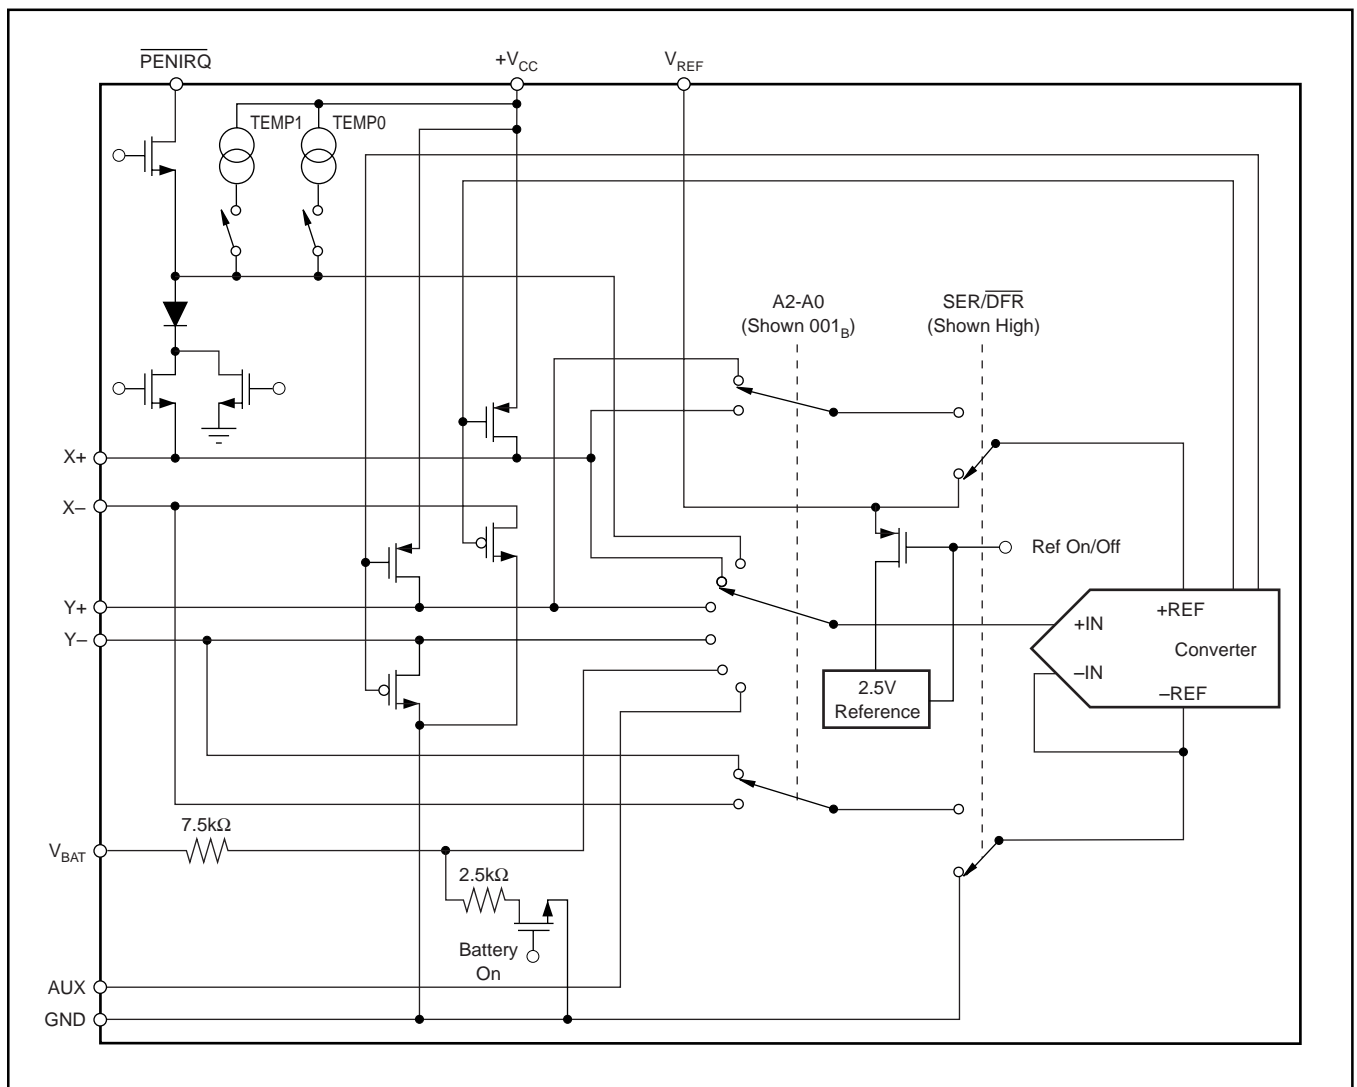

FIGURE 2. Simplified Diagram of Analog Input.
See Figure 2 for a block diagram of the input multiplexer on the ADS7846, the differential input of the ADC, and the differential reference of the converter. Table I and Table II show the relationship between the A2, A1, A0, and SER/DFR control bits and the configuration of the ADS7846. The control bits are provided serially via the DIN pin—see the Digital Interface section of this data sheet for more details.
When the converter enters the hold mode, the voltage difference between the +IN and -IN inputs (see Figure 2) is captured on the internal capacitor array. The input current into the analog inputs depends on the conversion rate of the device. During the sample period, the source must charge the internal sampling capacitor (typically 25pF). After the capacitor has been fully charged, there is no further input current. The rate of charge transfer from the analog source to the converter is a function of conversion rate.
The voltage difference between +REF and -REF (shown in Figure 2) sets the analog input range. The ADS7846 operates with a reference in the range of 1V to +VCC. There are several critical items concerning the reference input and its wide voltage range. As the reference voltage is reduced, the analog voltage weight of each digital output code is also reduced. This is often referred to as the LSB (least significant
**Addressing**—The next three bits (A2, A1, and A0) select the active input channel(s) of the input multiplexer (see Tables I, II, and Figure 2), touch screen drivers, and the reference inputs.
**$SER/\overline{DFR}$** —The  $SER/\overline{DFR}$  bit controls the reference mode, either single-ended (high) or differential (low). The differential mode is also referred to as the ratiometric conversion mode and is preferred for X-Position, Y-Position, and Pressure-Touch measurements for optimum performance. The reference is derived from the voltage at the switch drivers, which is almost the same as the voltage to the touch screen. In this case a reference voltage is not needed, as the reference voltage to the ADC is the voltage across the touch screen. In the single-ended mode, the converter reference voltage is always the difference between the  $V_{REF}$  and GND pins (see Tables I and II, and Figures 2 through 5 for further information).